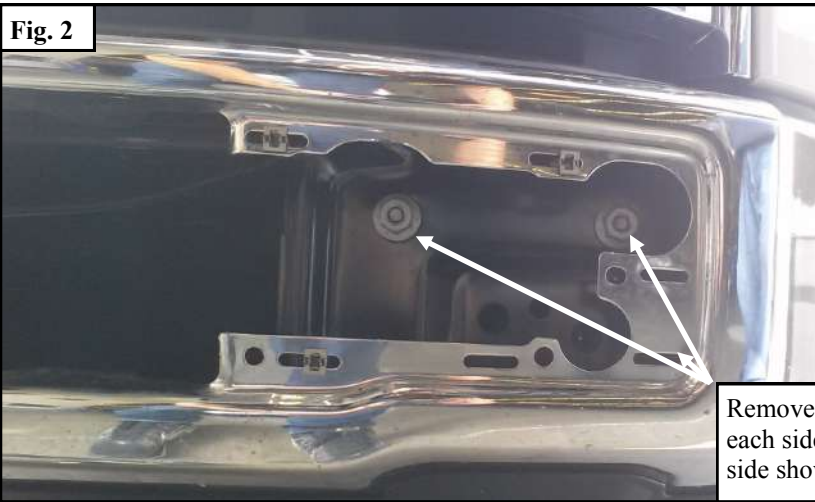

Fig. 2
3. Remove the three bolts indicated in **Figures 2 & 3** from each side of the vehicle.